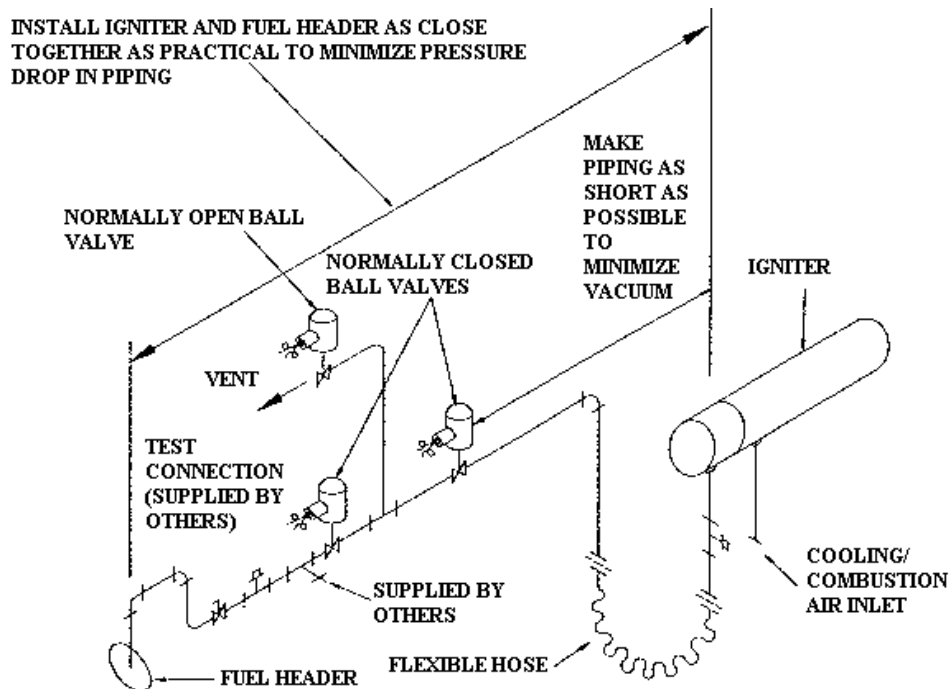

Figure 4-2 Typical Fuel Piping Arrangement
3. Position igniter as needed to accept the flexible hose from air and gas supply. Ensure that all bends in the flexible hose are in the same plane. Figure 4-2 illustrates a typical piping arrangement.